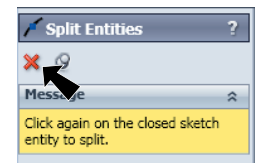

Fig. 17
Step 4. The circle is now split into two arcs. Click **Cancel**  in the Split Entities Property Manager, **Fig. 17**.